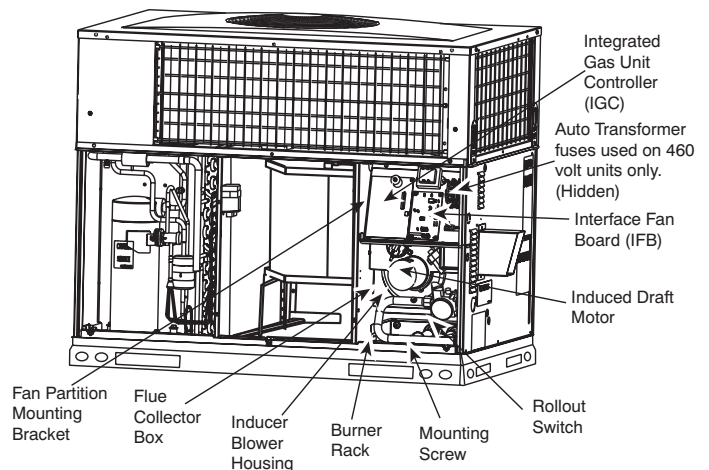
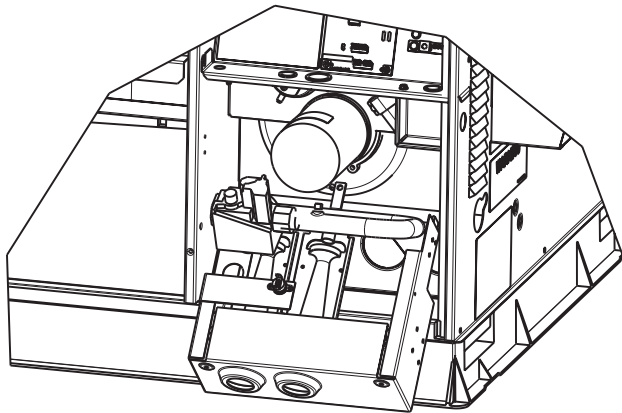

Fig. 22 – Blower Housing and Flue Collector Box
Fig. 25 – Burner Rack Removed
3. Slide the assembly out of the unit. (See Fig. 25). Clean the blower wheel. If additional cleaning is required, continue with Steps 4 and 5.
2. Remove the 11 screws holding the flue collector box cover (See Fig. 22) to the heat exchanger assembly. Inspect the heat exchangers.
5. Remove fan partition mounting bracket (2 screws located on the left side of control compartment on the fan partition panel). Slide bracket forward, bottom first, to remove. (See Fig. 22.)
7. Remove the mounting screw that attaches the burner rack to the unit base (See Fig. 22).
8. Partially slide the burner rack out of the unit (see Fig. 22 and Fig. 25). Remove ignitor and sensor wires at the burner assembly. Remove wires to rollout switch.
9. Slide the burner rack out of the unit (See Fig. 22 and Fig. 25).